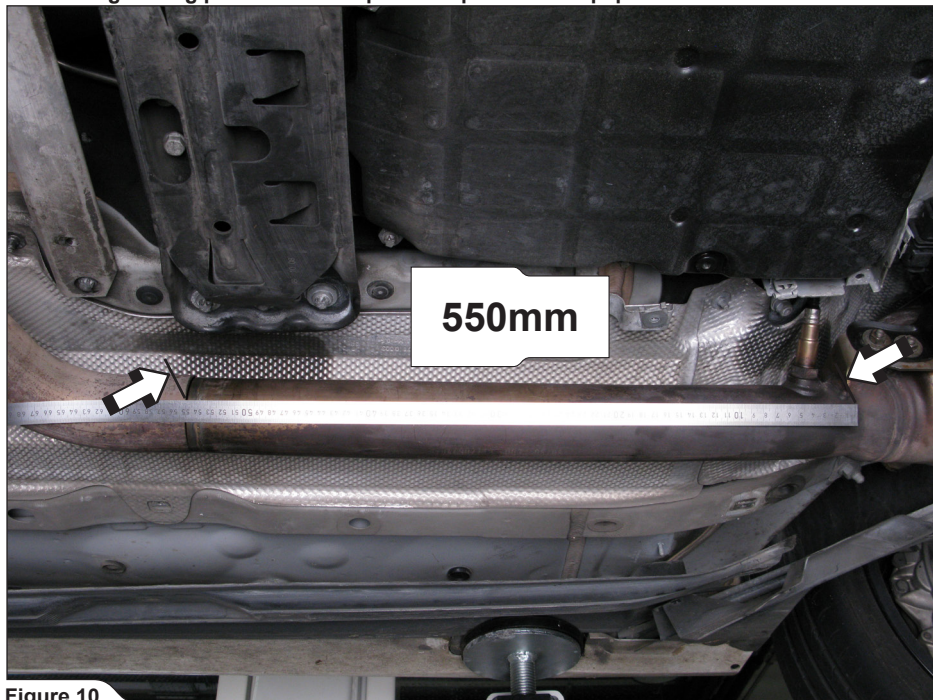

Figure 10
9. **For Evolution only:** mark left down pipe **550mm** from the end of the bracket, as shown. Cut the pipe, using angle grinder, jig saw or equivalent (**Figure 10**).